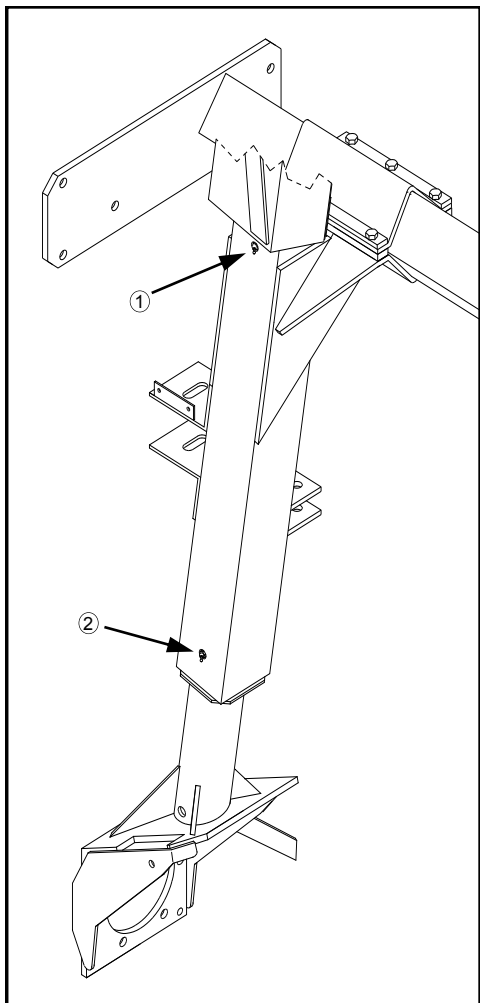

FIG 7.34
Hagie 204 & 204SP leg assemblies are constructed with upper and lower nylon bearings for suspension telescoping between the inner and outer leg weldments. These bearings must be lubricated to avoid bearing failure and ensure optimal ride quality. There are grease zerks located on the sides of the leg assemblies, one for the upper bearing (fig. 7.34, item 1) and one for the lower bearing (fig. 7.34, item 2). Greasing both bearings on both front legs daily is very important.